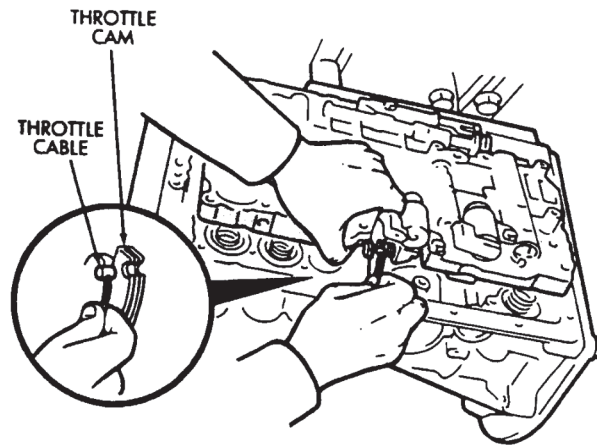

Fig. 60 Connecting Throttle Cable
(78) Connect throttle cable to throttle valve cam (Fig. 60).
(79) Install and tighten valve body-to-case bolts to 10 N•m (7 ft-lbs) torque.